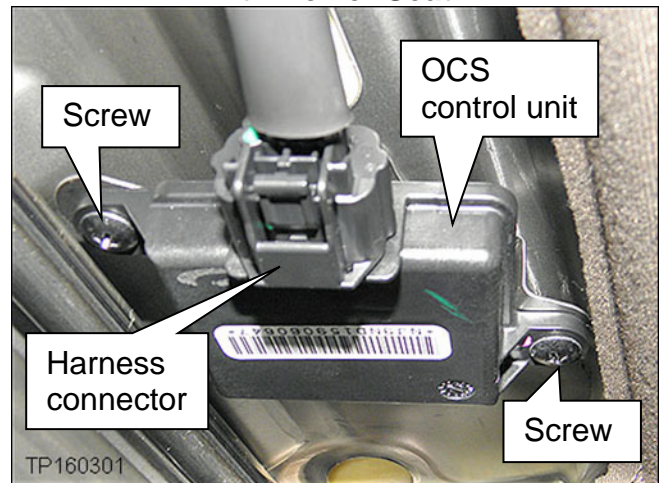

Figure 5
- With power seat, see Figure 5.